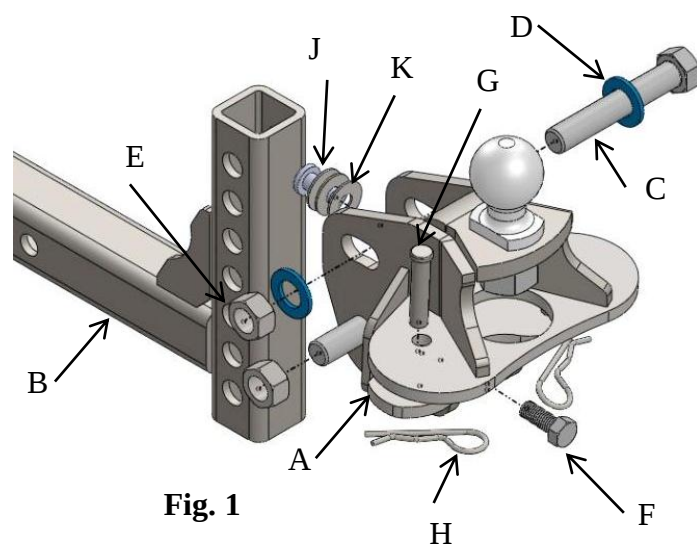

Fig. 1
- Insert draw bar (B) into the tow vehicle receiver in the desired orientation and install the pull pin and clip.
- To begin with, install 2 washers (K) on adjustment pin (J) and insert into top hole in ball mount(A), see Fig. 1 above. Up to 6 washers(K) can be used.